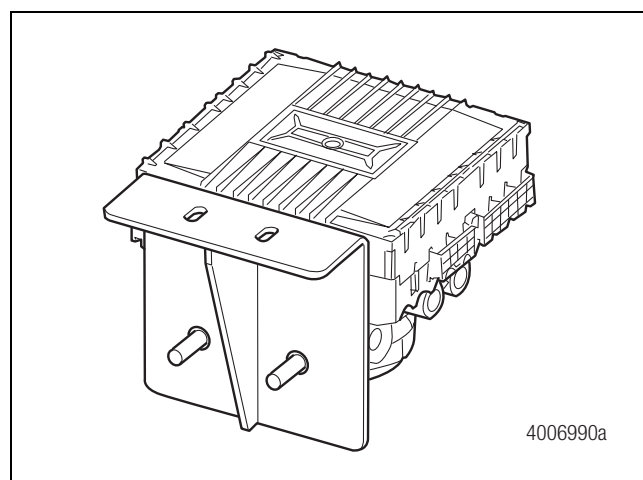

Figure 6
Do not tank mount. An air tank will not support the weight of the ECU/dual modulator valve assembly and may result in damage to the air tank. A bracket may be fabricated using steel at least 3/16-inch (4 mm) thick or mounted directly to the cross member. Figure 6.
- Build a mounting bracket with two 9/16-inch (14 mm) mounting holes with 2-3/4-inches (70 mm) center-to-center distance between the two holes. The bracket must be made of cold rolled 1040 to 1080 steel with a reinforcing gusset. Figure 6.